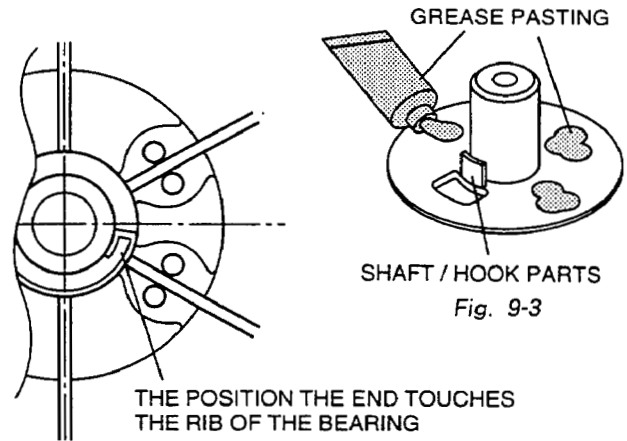

Fig. 9-3
(1) Setting the reel into the case.
- 1 : Paste grease on the case. (Fig. 9-3)